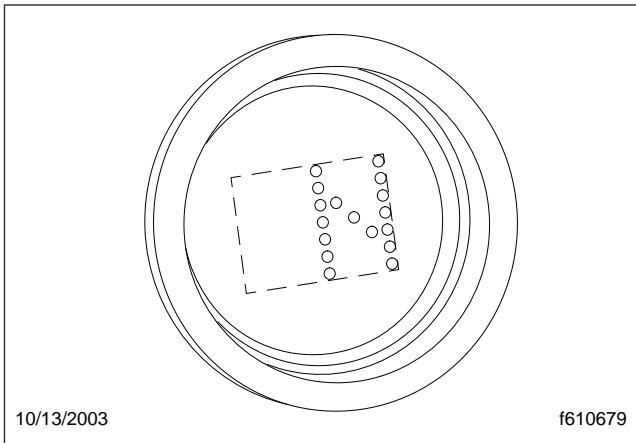

Fig. 8.28, Neutral Display
Neutral (N) is directly below R on the four-position selector switch located at the end of the SmartShift control lever. To select N, press in the neutral lock button and move the selector switch to the position below R. When neutral is selected, the letter "N" displays on the current gear indicator. See Fig. 8.28.